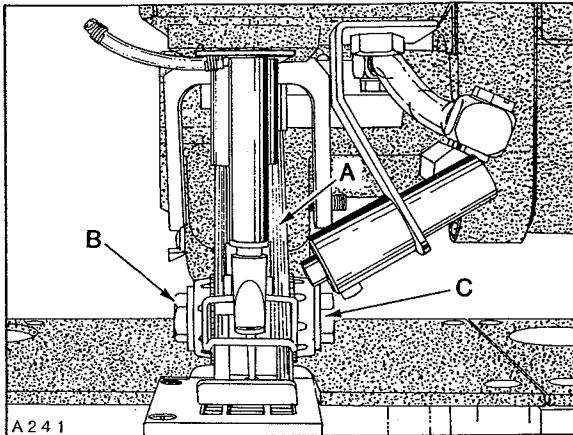

Fig. 38
Belt puller drive belt (A, Fig. 38) should have approximately $1/8$ inch (3.2mm) deflection when pressing firmly between drive sprockets. If adjustment is required hold lock nut (B) and loosen lock nut (C). Turn nut (B) to apply tension. Hold nut (B) firmly and tighten nut (C) securely.